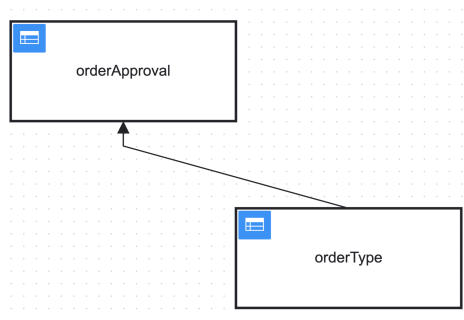

Figure 1.5 DRD (not in use)
1.2. Approve customer order (Business Rule Task): Depending on the quantity in the customer order, we categorize the order as either “single order” or “multiple order”. If the quantity is greater than 5, then we cancel this order. In the first version, the decision was made with the DMN tables connected to each other, creating a DRD (Decision Requirements Diagrams). This can be seen in the figure 1.5. But we decided the complexity of this decision is not high, and we don’t need to use DRD, a simple DMN table is enough (figure 1.6).